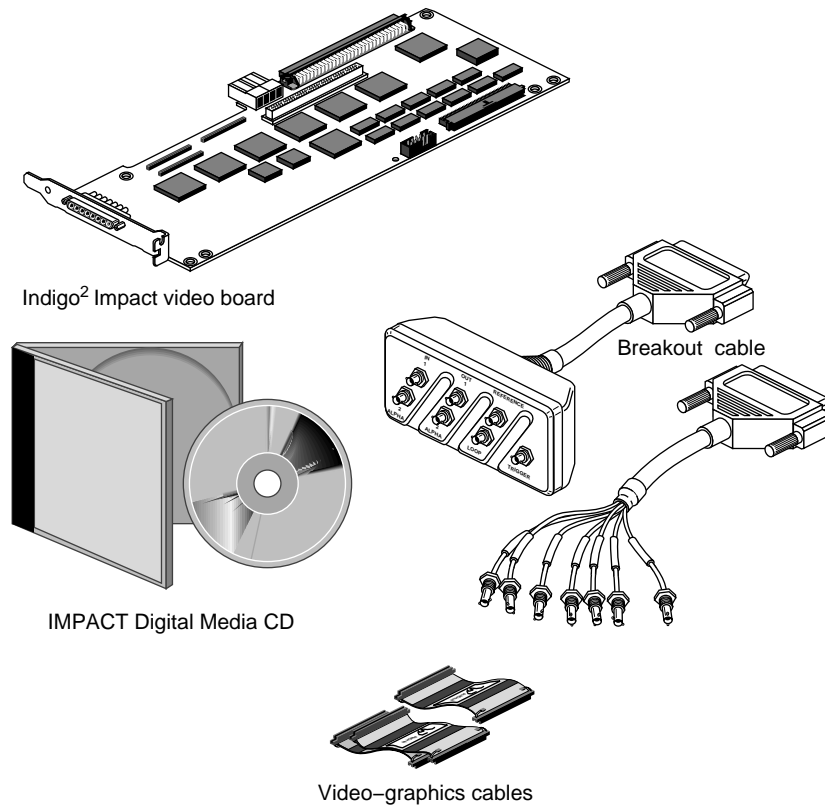

Figure 2-35 Indigo² IMPACT Video Board Package Major Components
- Indigo² IMPACT Video option (marketing code D9-I2I-VIDEO) enables real-time digital video for IMPACT (see Figure 2-35). IMPACT video provides high-quality digital video input, output and effects to help create professional video productions.